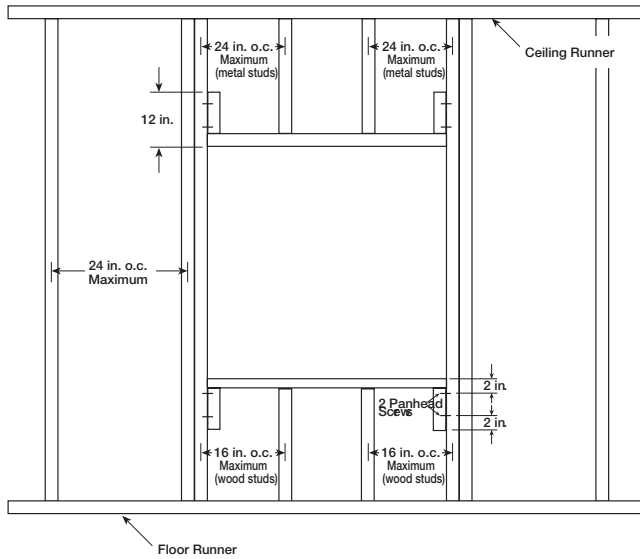

Figure 1
- Frame wall openings as shown below (see **Figure 1 & 2**).